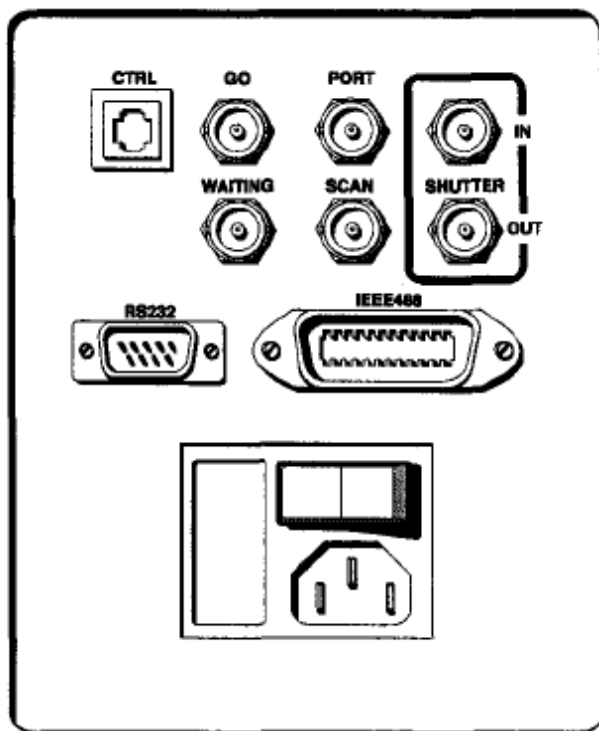

Figure 8: Rear Panel showing RS-232, IEEE and TTL connectors
- RS-232 Interface. MS257™ includes an RS-232 interface, and access is provided via the DB-9 connector on the rear panel (Figure 8). The baud rate is fixed at 9,600.
In order to use the IEEE-488 interface you require the IEEE-488 Interface Board (model 77710). Access is provided via the 25 pin connector installed on the rear panel (Figure 8). See the Programming Manual for further information on using the IEEE interface.
IMS257™ is the first commercial monochromator/spectrograph to have digital input/output communication facilities built into the unit. Figure 8 shows the BNC connectors at the back of IMS257™. These enable the scanning process to be closely integrated with data acquisition by providing the following TTL synchronizing signals: